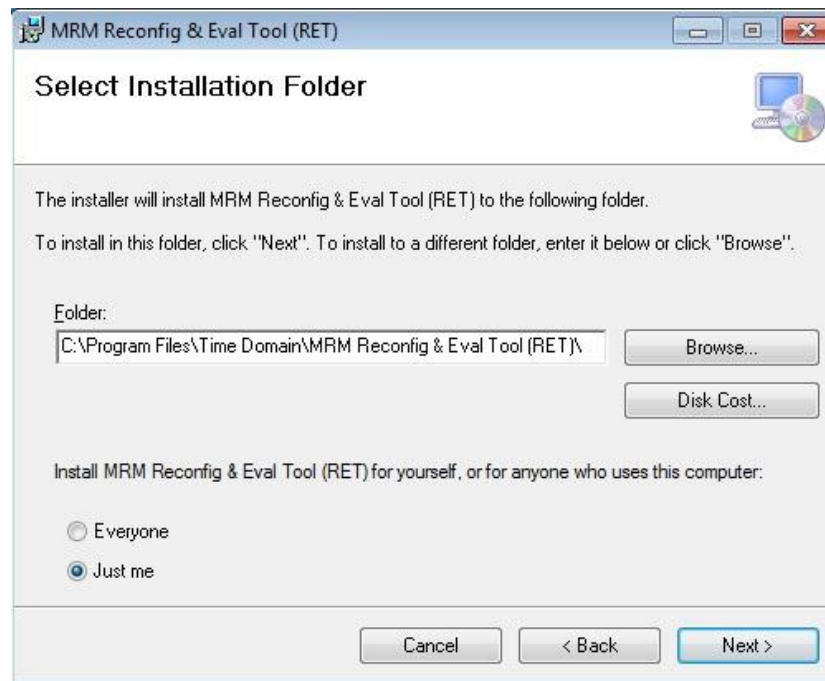

Fig. 4: Screen for designating Program Files location for P400 MRM-RET software
5. When you reach the screen shown in **Figure 4**, you will be given a choice of directories into which the MRM-RET software can be loaded.